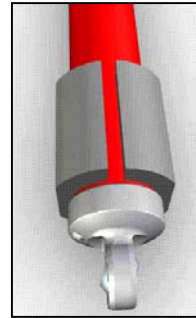

Figure 7
12. With the floating piston height set, place the shock body in the body clamp fixture so that the body clamp captures the floating piston located inside the body. Snug the body clamp in the vise. This will eliminate the floating piston moving during assembly. See Figure 7.